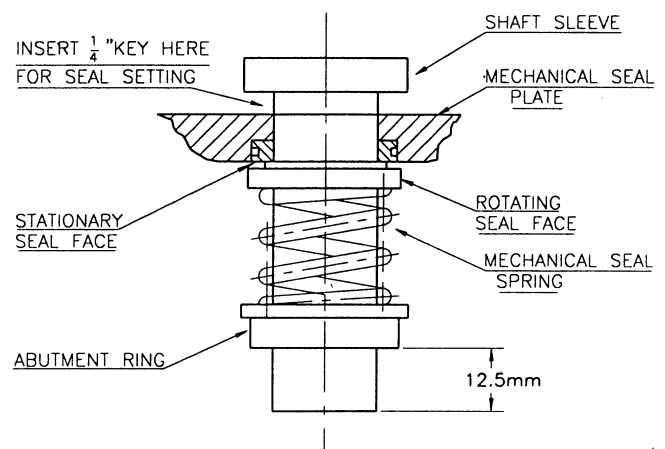

Figure 1
Lubricate components, fit Stationary Face to Seal Plate. Insert Shaft Sleeve through Seal Plate and fit Rotating Face, Spring, Spring Retainer and Abutment ring. Lock Abutment Ring to Sleeve with 12.5 mm of Sleeve protruding from Abutment Ring. (see figure 1.)
2. Insert two pieces of 1/4" keystone (one each side of shaft) between the Mechanical Seal Plate and the head of the Shaft Sleeve (see Fig. 1).